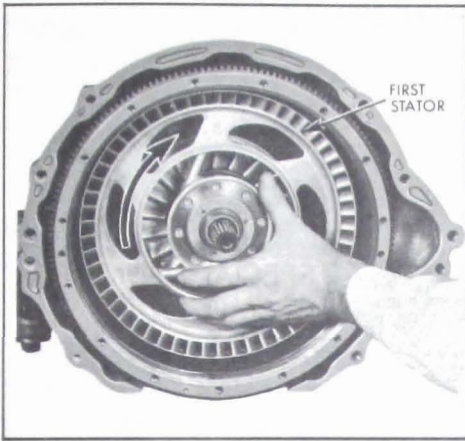

Figure 5-64—Checking First Stator Sprag Clutch
12. Check operation of first stator sprag clutch by sliding the first stator on the reaction shaft with thin edge of blades toward front of transmission. The first stator must turn freely clockwise and lock in a counterclockwise direction when viewed from front of transmission. See Figure 5-64.